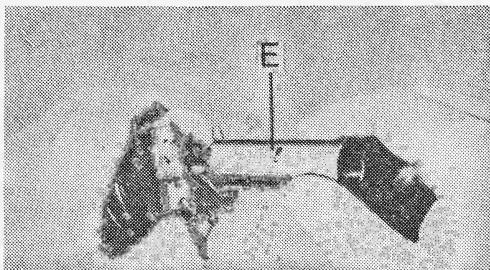

Fig. 10-37.
5. With your thumb depress the slide all the way back against the spring tension (Fig. 10-37). Insert the empty spindle (E) as shown. Release the slide so the spindle will lock into position.